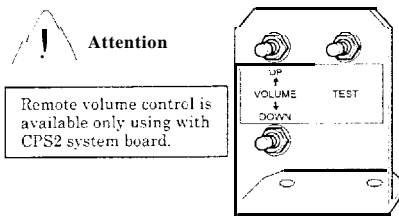

Figure 7: Test switch/Volume Bracket
23. Your cabinet may already be equipped with test switch. An optional test switch bracket (see Figure 7) is available through your local CAPCOM distributor (part number 03-0050). When installing, the test switch bracket should be mounted inside the coin door and on top of the cash box for easy access. (See Table 3: for wiring detail)